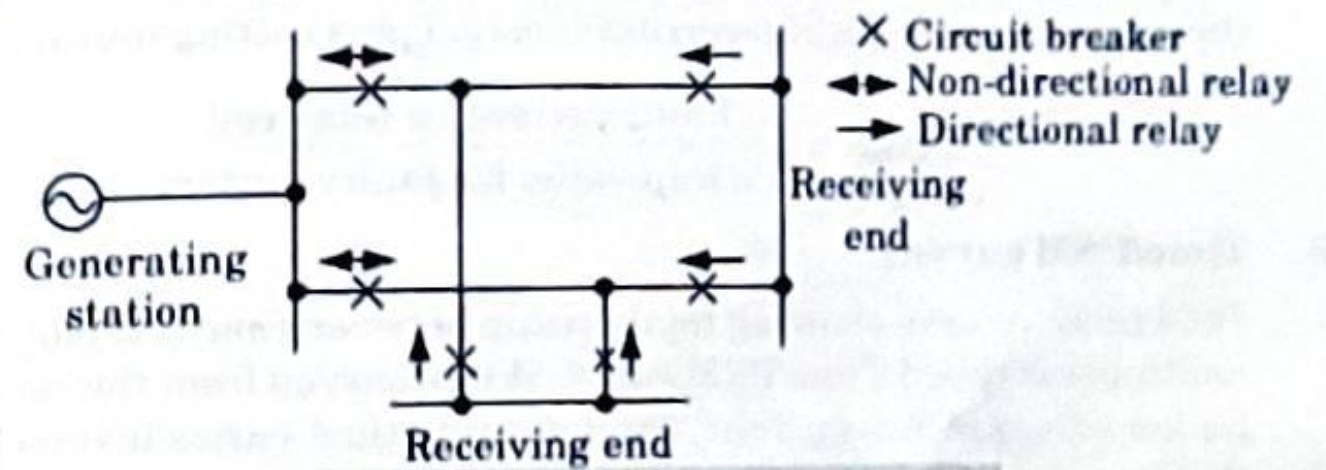

Fig. 3.14.3. Tee feeder protection.
- a. The method of protection used for the parallel feeders is also used in the protection of Tee feeders. The arrangement is shown in the Fig. 3.14.3.